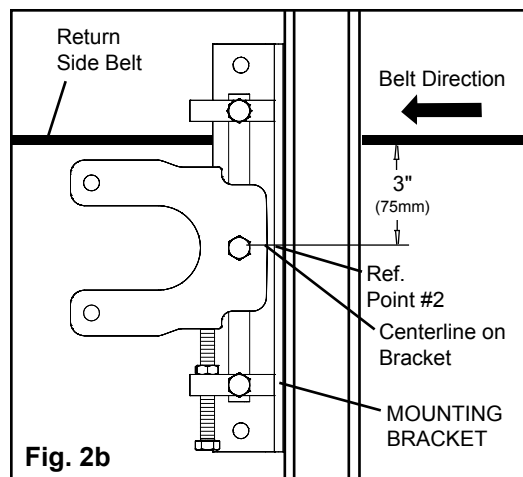

Fig. 2b
- Position the mounting brackets so the centerline marks on the brackets are in line with reference points #2 on the structure (Fig. 2b).